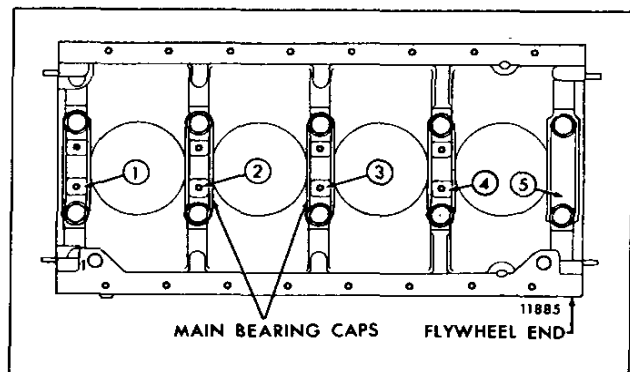

Fig. 15 - Typical Cylinder Block Markings
bore alignment. The number of the front main bearing cap is also stamped on the face of the oil pan mounting flange of the cylinder block, adjacent to its permanent location in the engine as established at the time of manufacture. The No. 1 main bearing cap is always located at the end opposite the flywheel end of the cylinder block (Fig. 15). Lubricate the bolt threads and bolt head contact areas with a small quantity of International Compound No. 2, or equivalent. Then, install and tighten the bolts to the specified torque. When making this check, do not install the main bearing cap stabilizers. The specified bore diameter is 3.251" to 3.252" (In-line engine) or 3.751" to 3.752" (V-type engine). If the bores do not fall within these limits, the cylinder block must be rejected.
2. If a new service replacement block is used, stamp the engine serial number and model number on the upper rear corner of the In-line block or the top right-hand corner of the V-type block. Also, stamp the position numbers on the main bearing caps (Fig. 15) and the position of the No. 1 bearing on the oil pan mounting flange of the block.